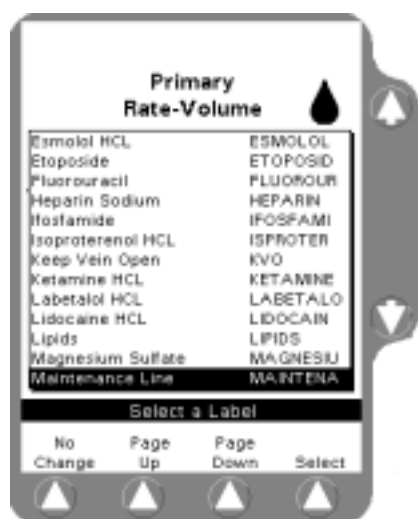

Figure 5-4 Label List
2. Press the **Label Line** soft key. A list of labels and their abbreviations is displayed as shown in Figure 5-4.
Figure 5-4 shows the label Maintenance Line highlighted from one of the pages of available labels.